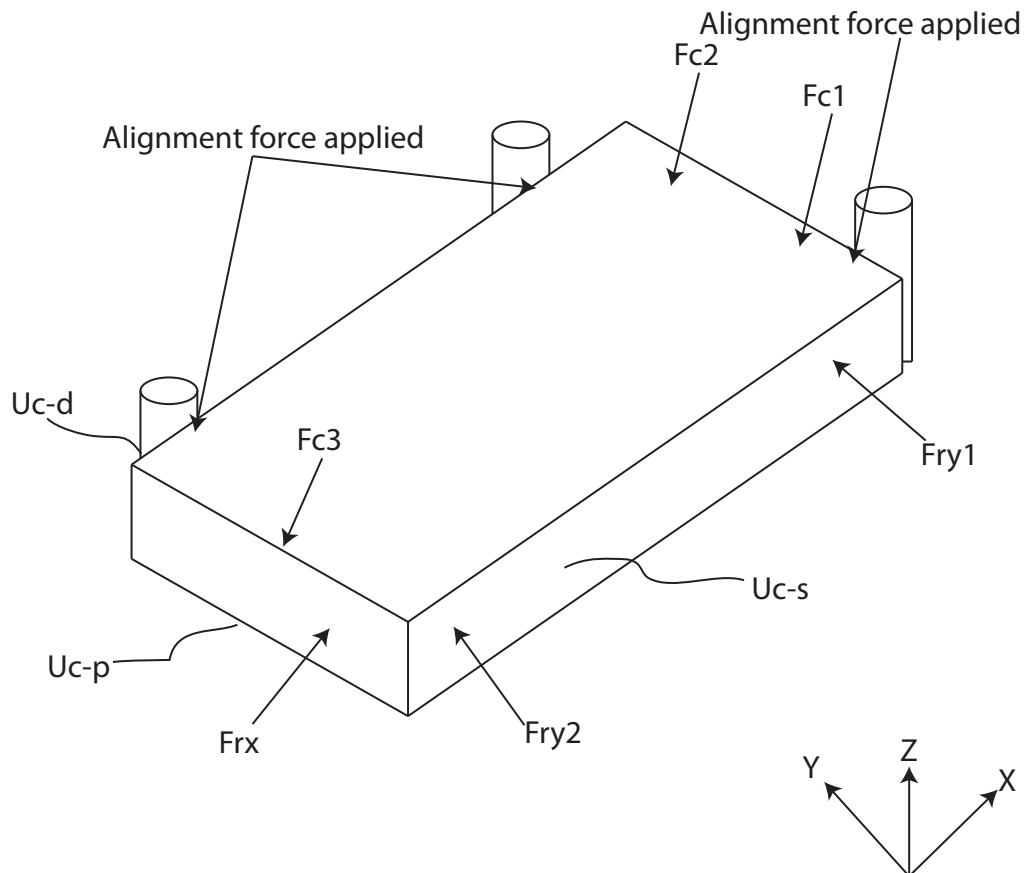

Figure 2-4 Mounting forces
The SG1024 printhead has three precision alignment surfaces (one X and two Y posts) which are machined on the finished assembly relative to the actual location (found optically) of the nozzles (please see product Interface Control Drawing (ICD) in Appendix A) where X is the cross process direction and Y is the process direction. The printhead also has three (3) precision surfaces for applying the holding force necessary to keep the printhead against the alignment pins. This holding force is supplied by the three (3) springs, shown in Figure 2-4.
The printhead surfaces mate with three (3) precision alignment surfaces on the mounting frame as shown in Figure 2-4. The mounting frame surfaces may be machined flats on pins or machined integrally to the frame. In either case the flats should be at least 1.5 mm wide and the surface finish should be an Ra of 0.8 µm or better to avoid damage to the printhead alignment surfaces. The friction coefficient of the frame surface is important. Machined stainless steel or aluminum coated with the Ni-PTFE coating would be good. Raw aluminum would not.